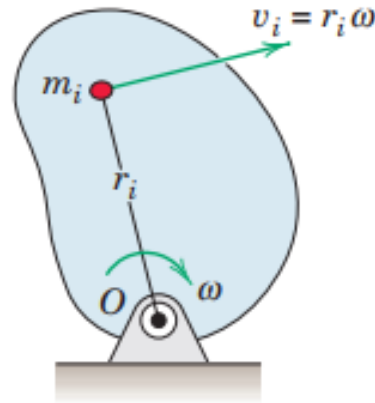

Figure 8. Rotation
- The rigid body in Fig. 8 rotates with an angular velocity  $\omega$  about the fixed axis through O.